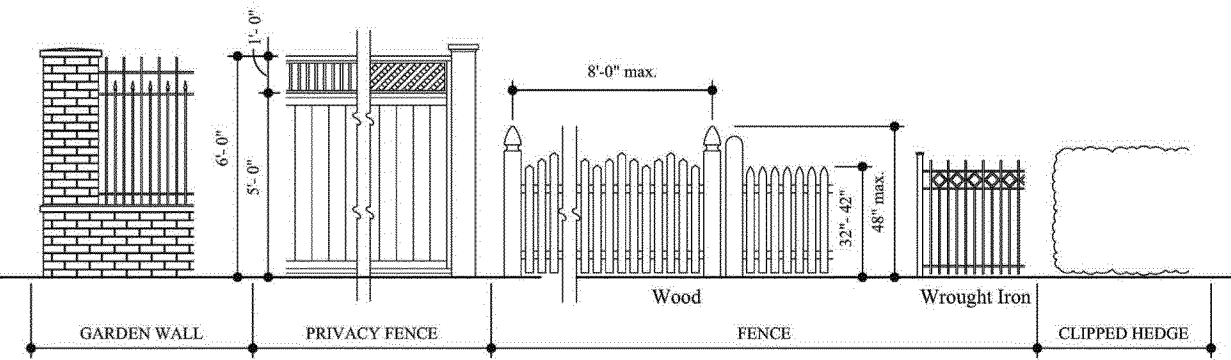

Figure 33
- » Rear-yard privacy fences shall be a maximum of 6' in height, including any top lattice or spaced picket portion. See Figure 33.